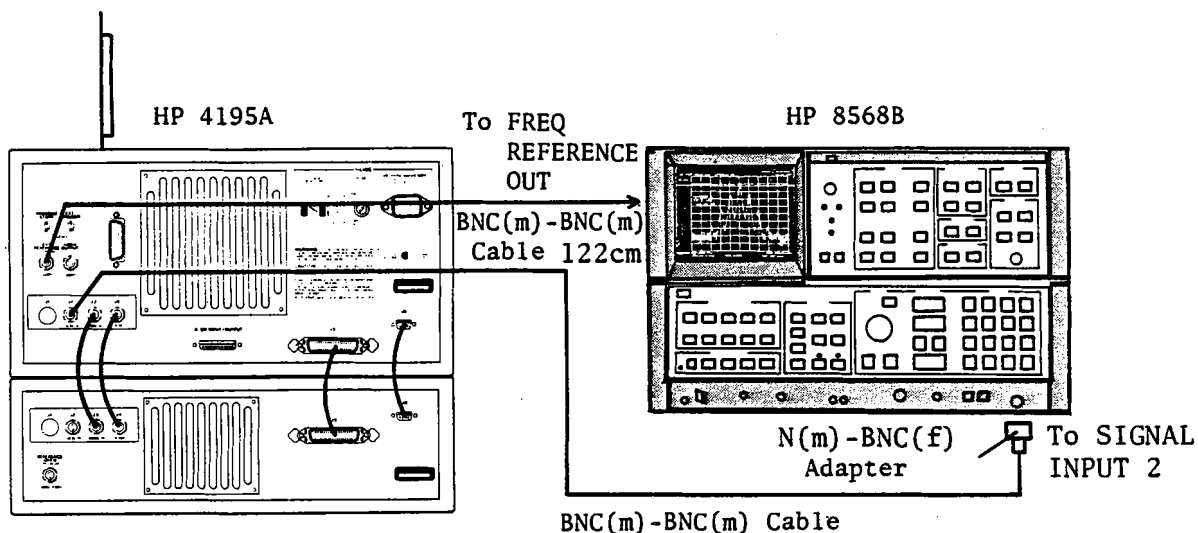

Figure 3-44. 160 MHz Spurious Rejection Adjustment Setup
2. Connect the equipment as shown in Figure 3-44.